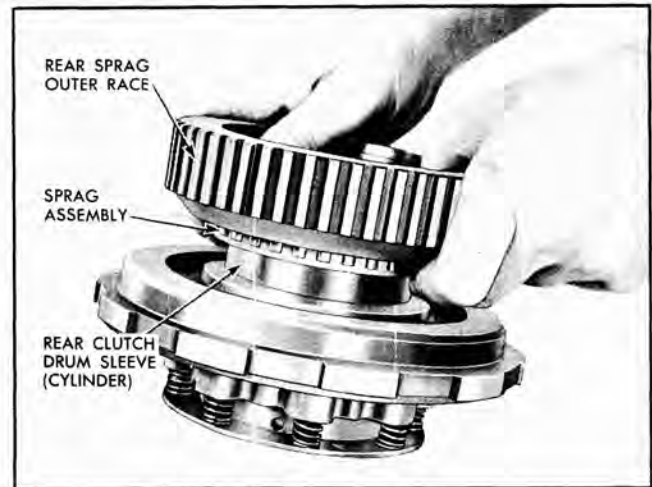

Fig. 94 Installing Sprag and Outer Race on Inner Race
19. Lower sprag and outer race on rear unit inner race (rear clutch cylinder). **NOTE:** Push sprag part way down through outer race then rotate sprag counterclockwise to assist assembly (Fig. 94).